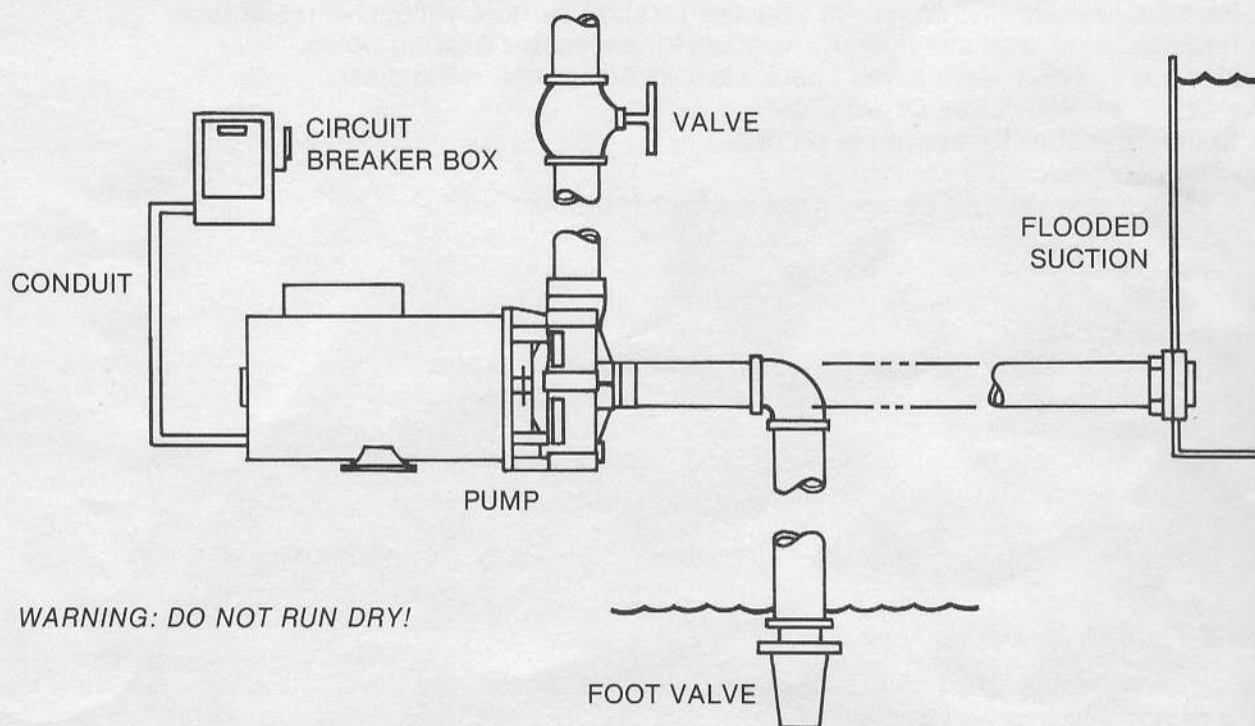

FIGURE 2
1. Locate pump as near the source to be pumped as possible. A flooded suction situation is preferred. The pump is *not* self-priming, therefore, if the fluid level is below the pump, a foot valve must be installed and the pump primed prior to start-up. (Figure 2)
5. The pump is *non self-priming!* It must *not be run dry!* We recommend a flooded suction. If this is not possible, use a foot valve and prime the pump. (Figure 2)